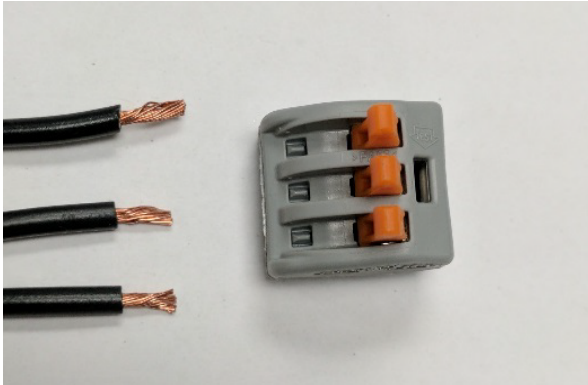

Figure 17 – Before installing line voltage motor connection in 3-position lever nut for dual motors
- a. **(DUAL MOTORS ONLY)** Cut off male quick-connect on Black wire on WH#. Locate the two BLACK wires removed from “LINE VOLTAGE IN” portion of FCRB in Step 4. Install all three wires into the 3-position lever nut (see Figures 17 and 18)
- a. **(DUAL MOTORS ONLY)** Cut off male quick-connect on WHITE wire on WH3. Locate the two WHITE wires removed from “TO FAN MTR” portion of FCRB in Step 4. Install all three wires into the 3-position lever nut (see Figures 17 and 18).
- a. **(DUAL MOTORS ONLY)** Cut off male quick-connect on BLACK wire on WH3. Locate the two BLACK wires removed from “LINE VOLTAGE IN” portion of FCRB in Step 4. Install all three wires into the 3-position lever nut (see Figures 17 and 18).